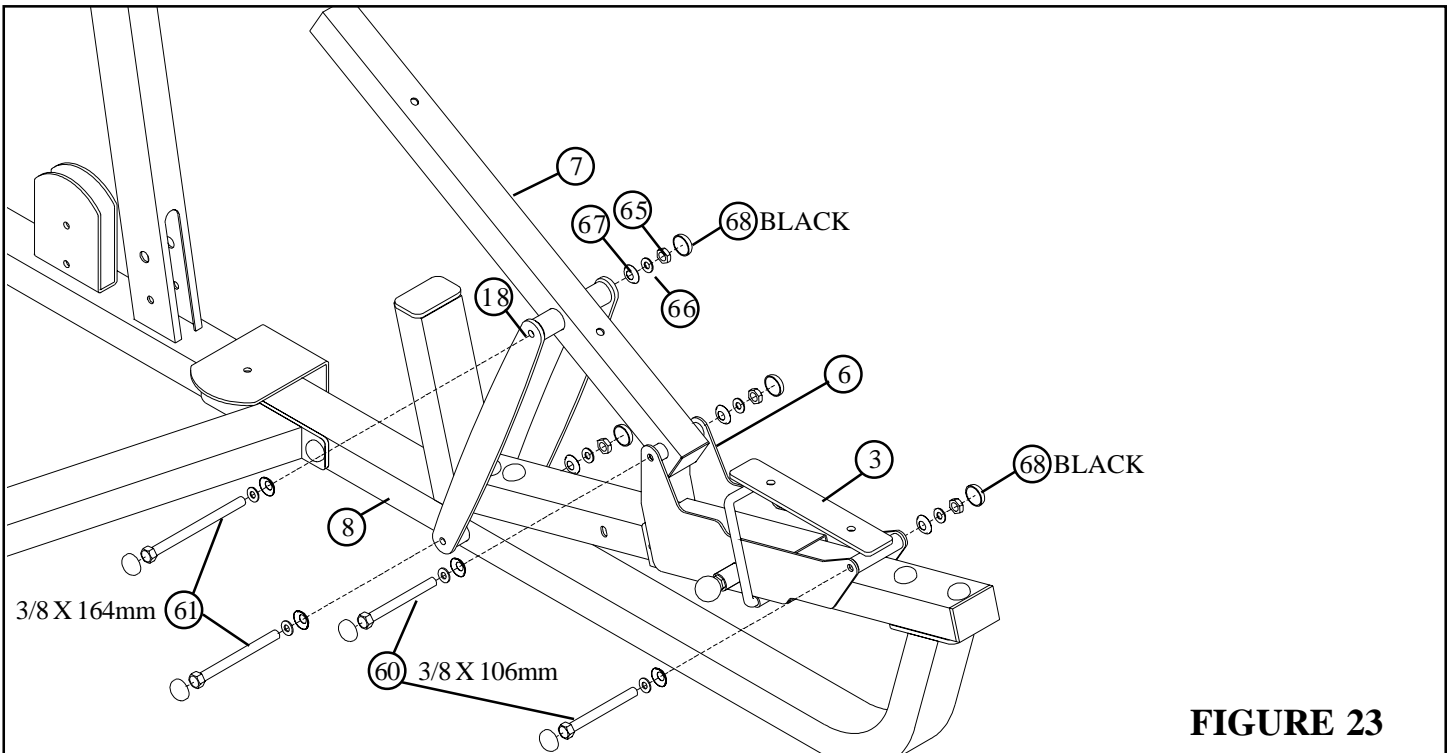

**FIGURE 22**
- Insert one 5-1/2" PIVOT SHAFT (41) into the MULTI PRESS FRAME (8) and one 5-1/2" PIVOT SHAFT (41) into the BACK PAD SUPPORT (7) as shown in FIGURE 22.